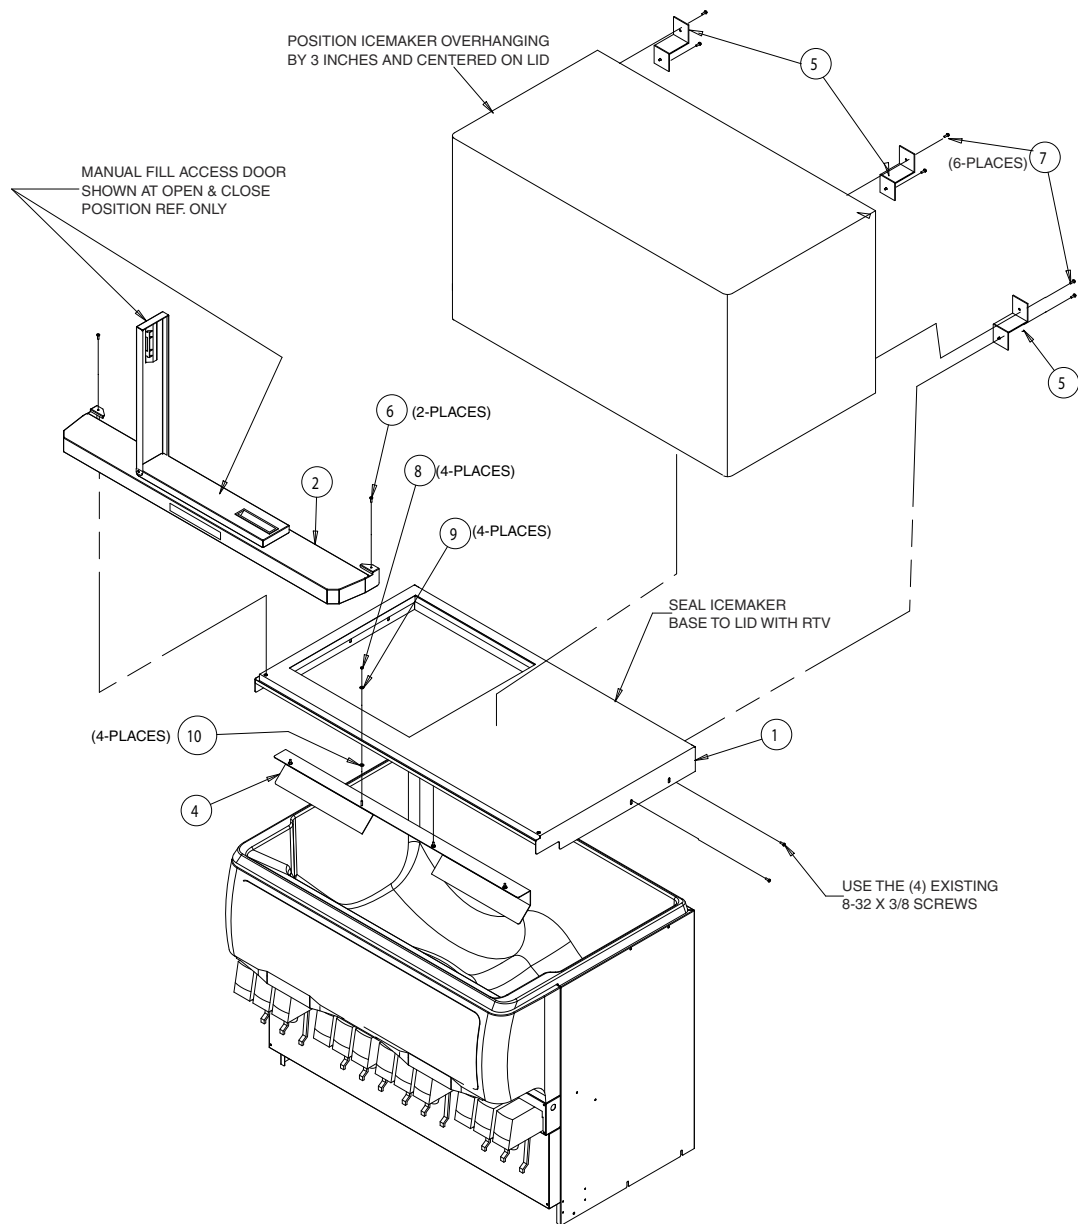

Figure 1. Exploded View of Ice Maker Adapter Lid Assembly
Refer to Figure 1 for the following procedure:
1. Remove the plastic ice storage hopper covers (2) that were shipped with the unit.
2. Remove the (2) screws from each side of the dispenser cabinet. Position the ice maker adapter lid on the dispenser and use the (4) cabinet screws to secure the lid to the cabinet.
3. Install the ice baffle (item 4) to the adapter lid as shown in Figure 1.
4. Refer to Figure 1 to locate the ice maker on the adapter lid. The ice maker should extend (over hang) in the rear by 3 inches and centered on the adapter lid. Seal the ice maker base to the adapter lid by running a bead of RTV around the base perimeter on the lid. Set the ice maker onto the RTV. Wipe away any excess RTV.
5. Using the ice maker mounting brackets (item 5) as templates, drill 0.147" diameter holes (drill size 26) into the ice maker cabinet and the adapter lid. **Use caution so as not to drill into any ice maker component (condenser, tubing, ETC.).** Secure the mounting brackets to the ice maker and adapter lid with the #10 sheetmetal screws (item 7) provided in the kit.
8. Install the service access cover (item 2) on the adapter lid (item 1) with the #1/4-20 screws (item 6) provided in the kit. Check for proper operation of the door; it should be free to open by lifting up on the door handle to the left open position.